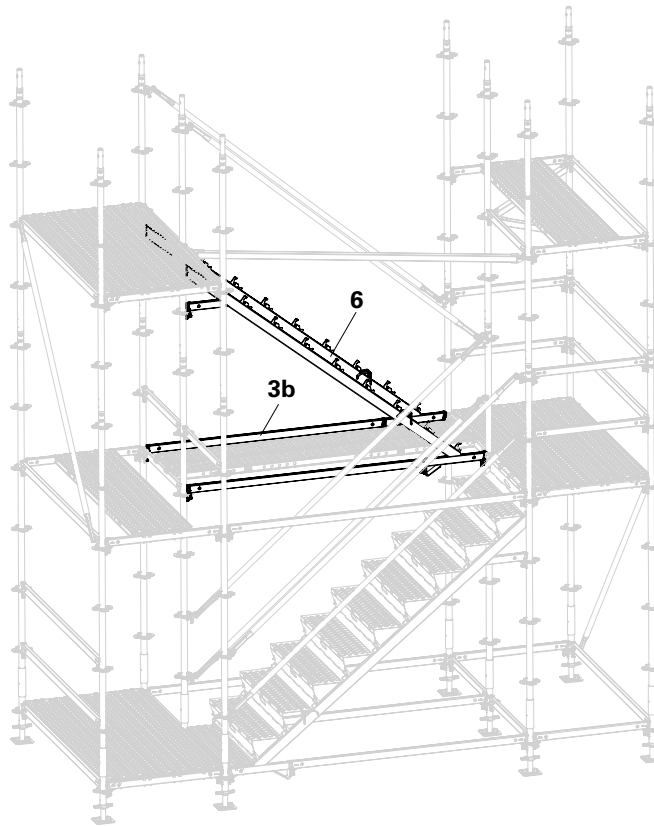

Fig. A3.06
2. Brace with two Horizontal Ledgers UH 200 (**3b**). (Fig. A3.06)